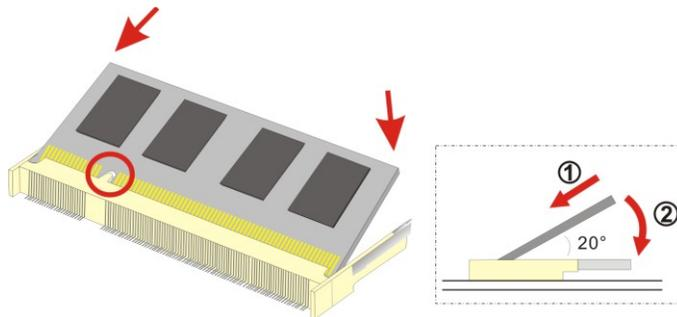

Figure 5-5: SO-DIMM Installation
Step 3: Remove the SO-DIMM by releasing the arms on the SO-DIMM socket. Align the new SO-DIMM with the socket. The SO-DIMM must be oriented in such a way that the notch in the middle of the SO-DIMM must be aligned with the plastic bridge in the socket (**Figure 5-5**).
Step 4: Insert the SO-DIMM. Push the SO-DIMM chip into the socket at an angle (**Figure 5-5**).